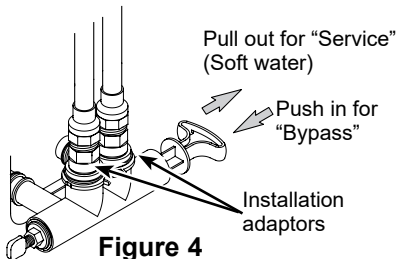
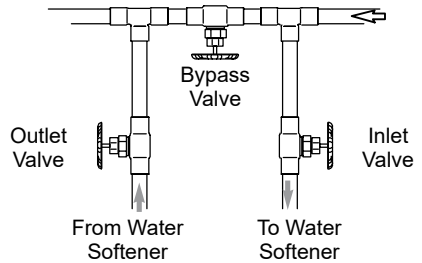
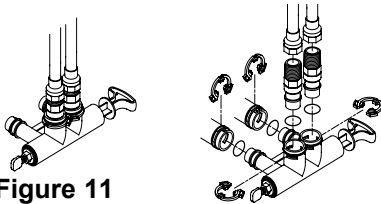

Figure 4
Figure 5
Figure 11
Always install either a single bypass valve (provided), as shown in Figure 4, or, if desired, parts for a 3 valve bypass system (not included) can be purchased and assembled, as shown in Figure 5. Bypass valves allow you to turn off water to the softener for maintenance if needed, but still have water in house pipes.
If you install a 3-valve bypass system (Figure 5), electrical continuity will be maintained. If you install the non-metallic bypass valve (Figure 11), please refer to the Installing the Ground Wire section before cutting the pipe.
2. Place the bypass valve (single or 3 valve) into the "bypass" position (see Figures 4 or 5).
- Single bypass valve (Figure 4): Slowly move the valve stem toward "service," pausing several times to allow the water softener to fill with water.
- 3 valve bypass (Figure 5): Fully close the bypass valve and open the outlet valve. Slowly open the inlet valve, pausing several times to allow the water softener to fill with water.